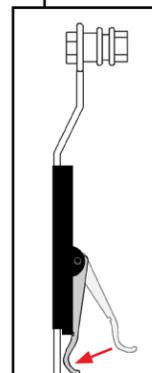
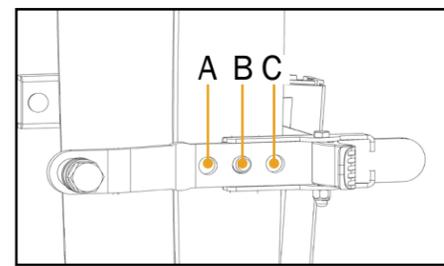

Figure 4B
Figure 5
- Push down on the cam locks (Figure 4B) to secure the hinges. Figure 5 shows the Roller Hinges engaged correctly (in setting C).